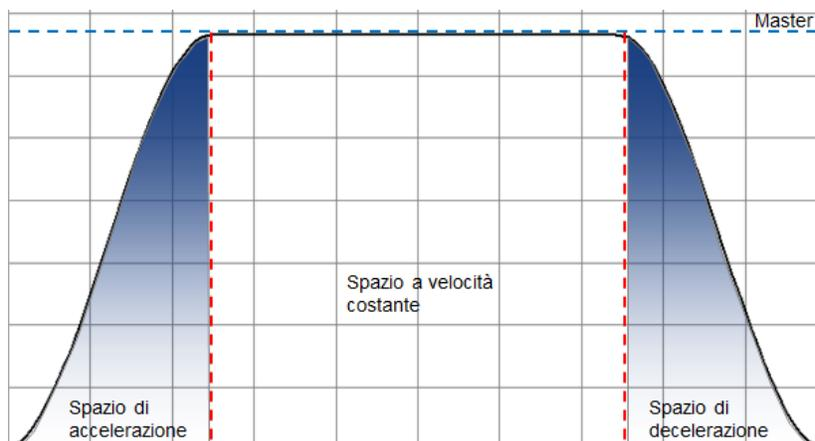

Figure 23: Speed profile generated with the "Acc_Mode" input = 0
- If "Acc_Mode" is equal to zero, the distance traveled during the acceleration phase corresponds to half the space Master (Figure 23)